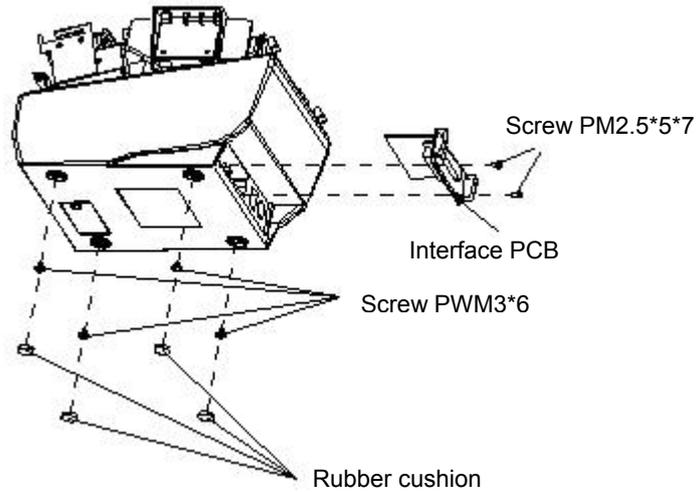

Figure 5-4
Step1. As Figure 5-4 shown, loosen the two screws PM2.5*3 in the interface PCB.